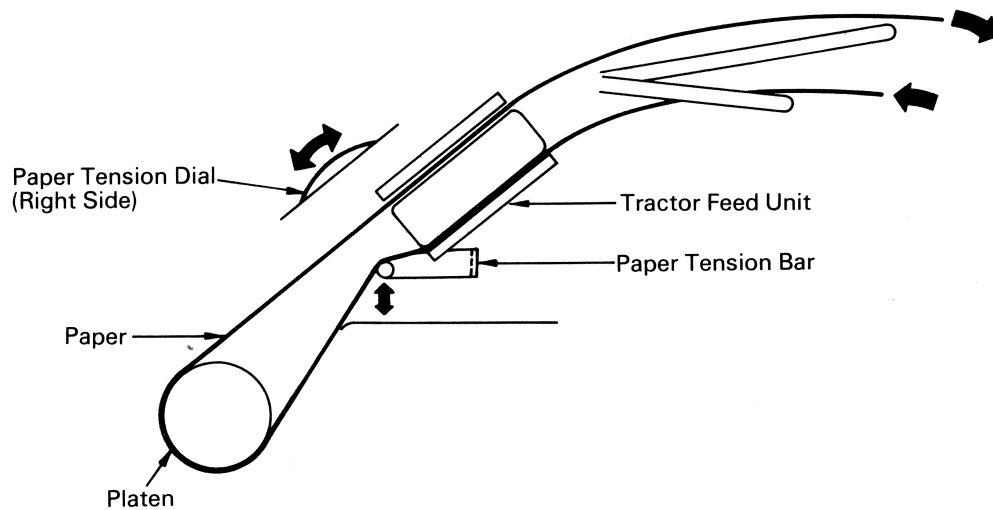

Figure 9
15. Advance the paper by turning the Platen Knob so that the paper exits over the top of the Upper Paper Separator. (See Figure 9.)